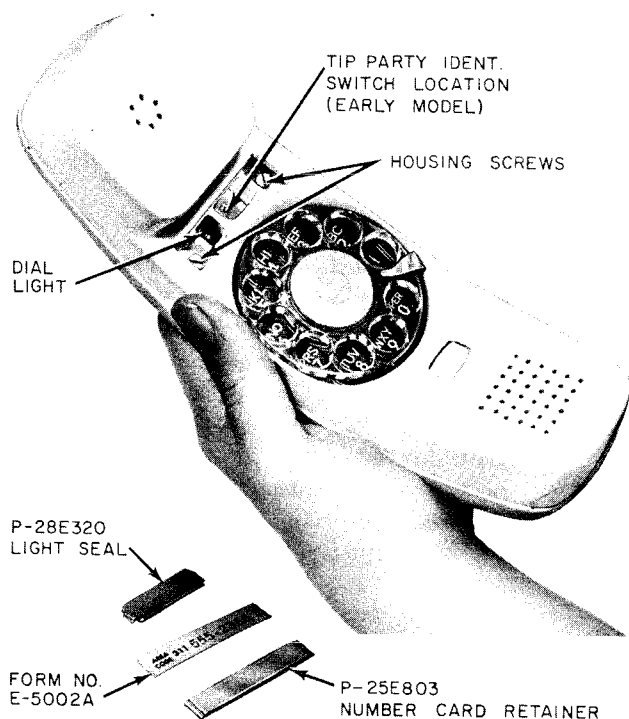

Fig. 4—220A Hand Telephone Set, Number Card Removed
- (2) If tip party identification is required, an H5AA cord must be used. Check under number card window to see that screw used in tip party identification switch is tightened down. The absence of a screw or screw hole in the identification switch position (Fig. 4) indicates that the connection has been made in the network at the factory. The H4DB and H5AA handset cords are available in 5-1/2, 9-, and 13-foot lengths.